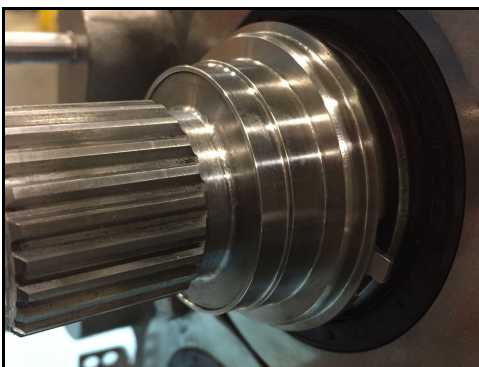

Figure 125 - Adjusting ring installed
- 19. Figure 125 shows the adjusting ring installed.